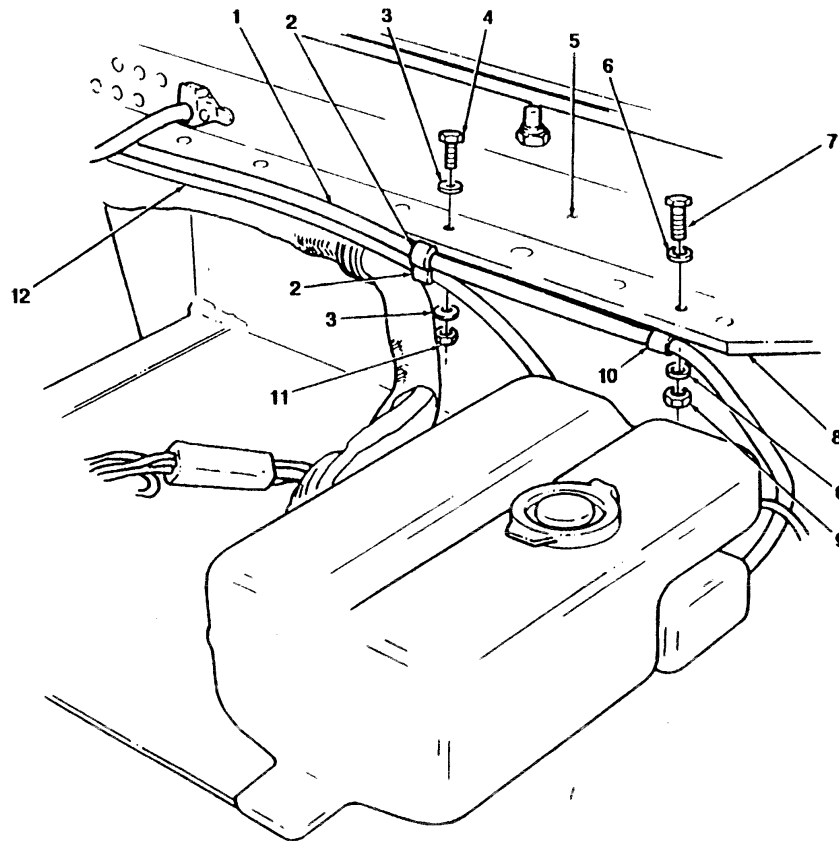
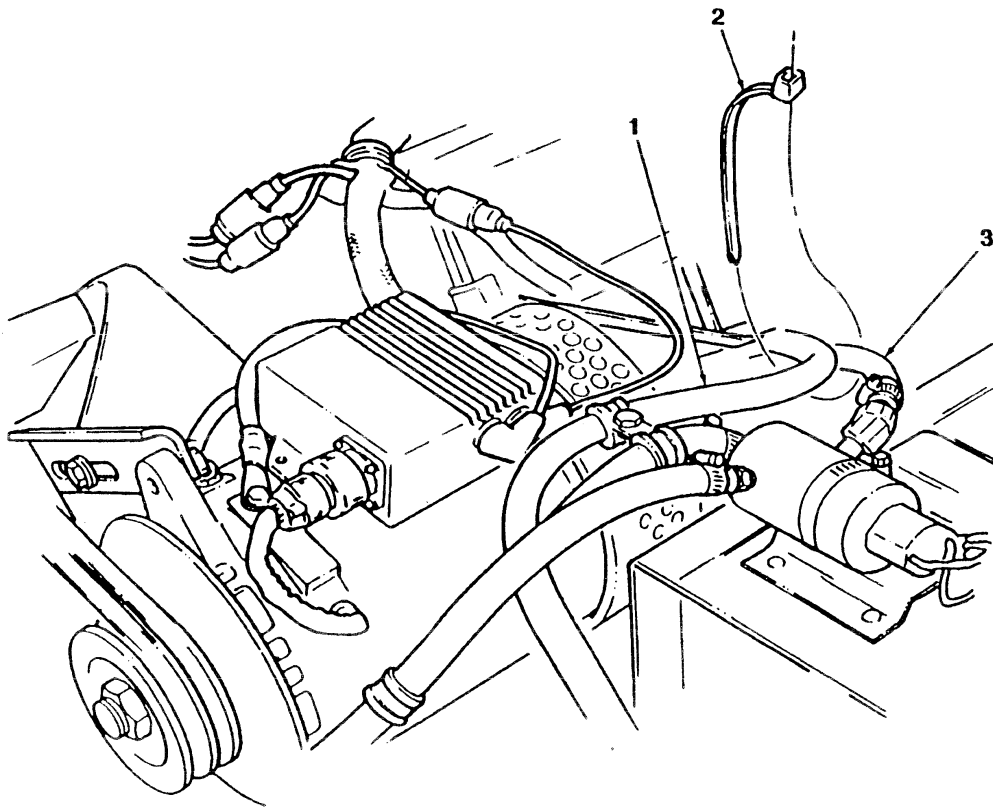

FIGURE 3-7
FIGURE 3-8
3. Position two clamps (2) and hoses (1) and (12) under body hood rail (8) on A-pillar (5) and install with washer (3), screw (4), washer (3), and nut (11). (see figure 3-7)
4. Position clamp (10) and hose (1) under body hood rail(8)on A-pillar(5) and install with washer (6), screw (7), washer (6), and nut (9).
B. Repositioning Hydro-boost Return Hose. Secure hydro-boost return hose (1) to control valve return hose (3) with NSN 5975-00-074-2072 tiedown strap (2). (see figure 3-8)